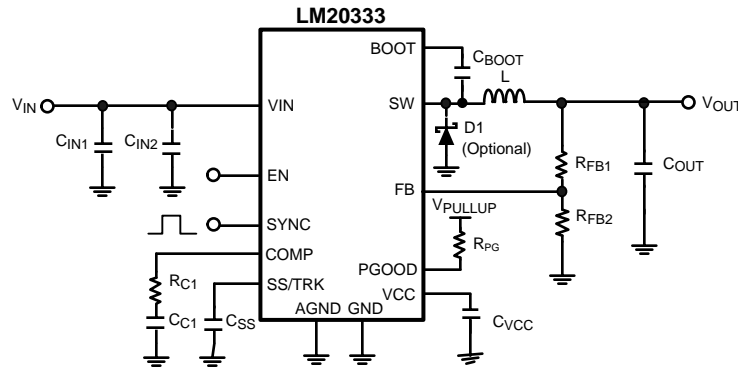

Figure 25. Typical Application Circuit
The LM20333 switching regulator features all of the functions necessary to implement an efficient buck regulator using a minimum number of external components. This easy to use regulator features two integrated switches and is capable of supplying up to 3A of continuous output current. The regulator utilizes peak current mode control with nonlinear slope compensation to optimize stability and transient response over the entire output voltage range. Peak current mode control also provides inherent line feed-forward, cycle-by-cycle current limiting and easy loop compensation. The switching frequency can be synchronized to an external oscillator over the range of 250 kHz to 1.5 MHz. The SYNC function allows the device to operate at high switching frequencies minimizing the size of the inductor while still achieving efficiencies as high as 94%. The precision internal voltage reference allows the output to be set as low as 0.8V. Fault protection features include: current limiting, thermal shutdown, over voltage protection, and shutdown capability. The device is available in the HTSSOP package featuring an exposed pad to aid thermal dissipation. The typical application circuit for the LM20333 is shown in Figure 25 in the design guide.
This section walks the designer through the steps necessary to select the external components to build a fully functional power supply. As with any DC-DC converter numerous trade-offs are possible to optimize the design for efficiency, size, or performance. These will be taken into account and highlighted throughout this discussion. To facilitate component selection discussions the circuit shown in Figure 25 below may be used as a reference. Unless otherwise indicated all formulas assume units of amps (A) for current, farads (F) for capacitance, henries (H) for inductance and volts (V) for voltages.